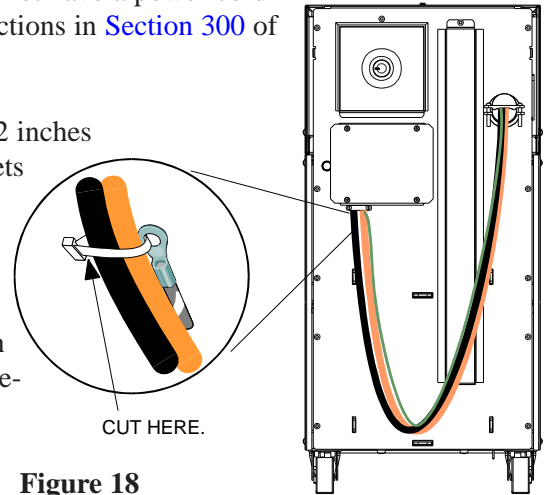

Figure 18
3. The green ground cable is tie-wrapped with the DC cables on the back of the UPS. Use a wire cutter to cut the section of tie-wrap that is threaded through the ring connector as shown in Figure 18. **DO NOT cut the cables or any of the other tie-wraps!**